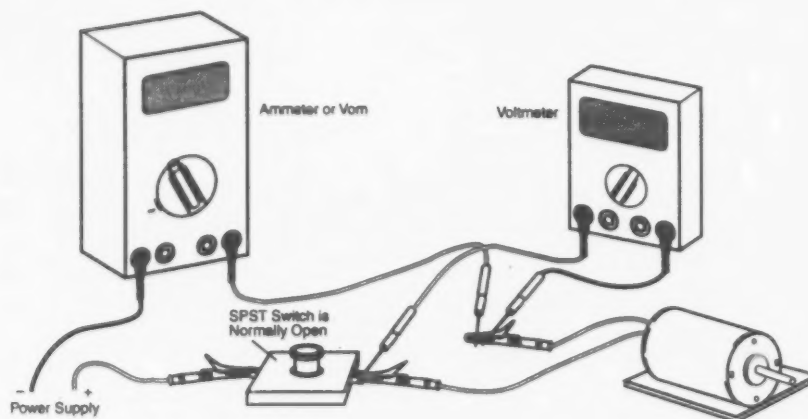

Figure 15 - System Setup
1. Set up the system as shown in Figure 15. Attach a weight (W) to the load end of the cord. Make sure to record the value of the weight in your data table.